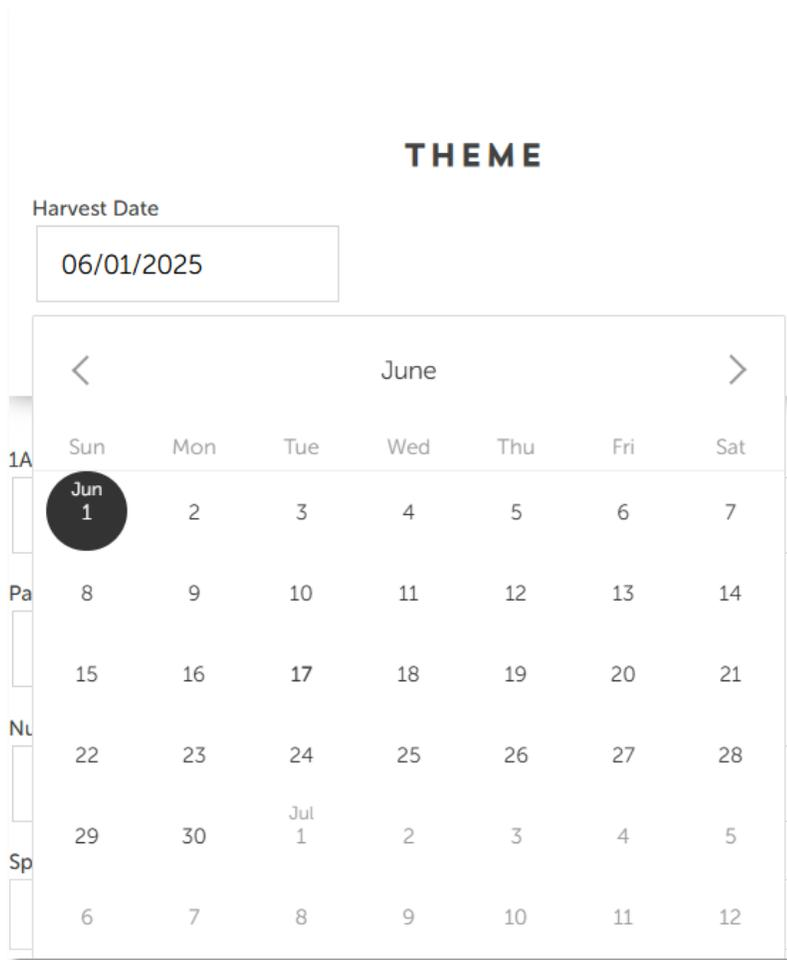

Figure 20: Harvest Date picker
d. Update Harvest date, if applicable – see Figure 20.
- e. Set quantity and optional settings (e.g., packed date, , project tracking) – see **Figure 20**.